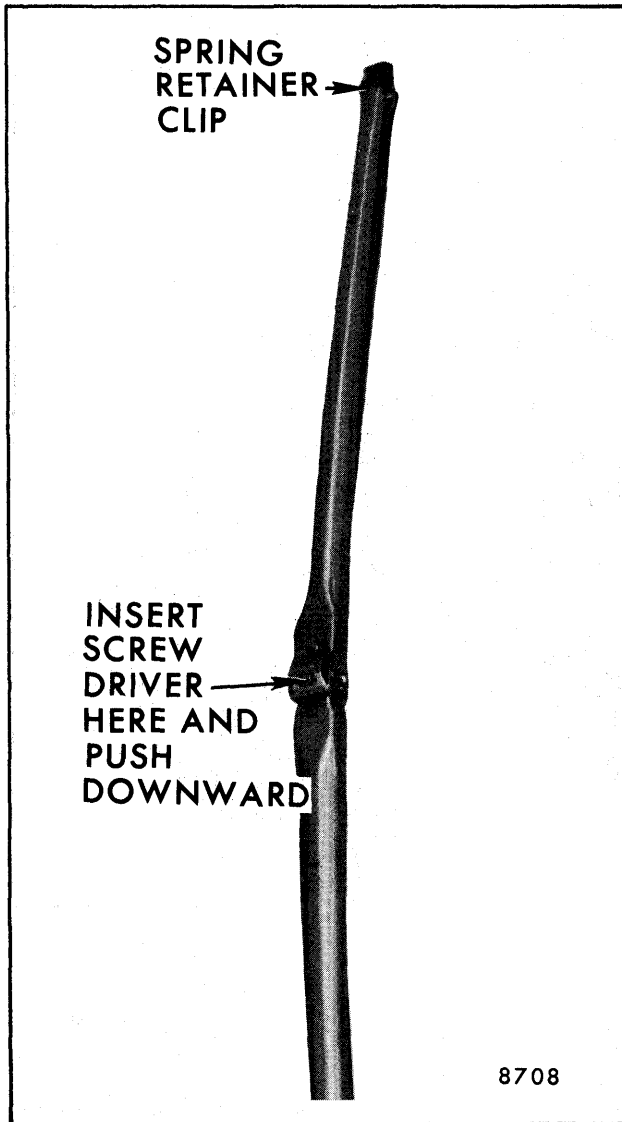

Fig. 2-53-Wiper Blade Assembly
1. The wiper blades are retained by a coil spring retainer (Fig. 2-53). A screwdriver or similar tool must be inserted on top of the spring and the spring pushed downward. The blade assembly can then be slid off the wiper arm pin.
2. The wiper blade element is retained by a clip in the end of the blade element. When the retainer clip is squeezed together, the blade element can be slid out of the blade assembly (Fig. 2-53).